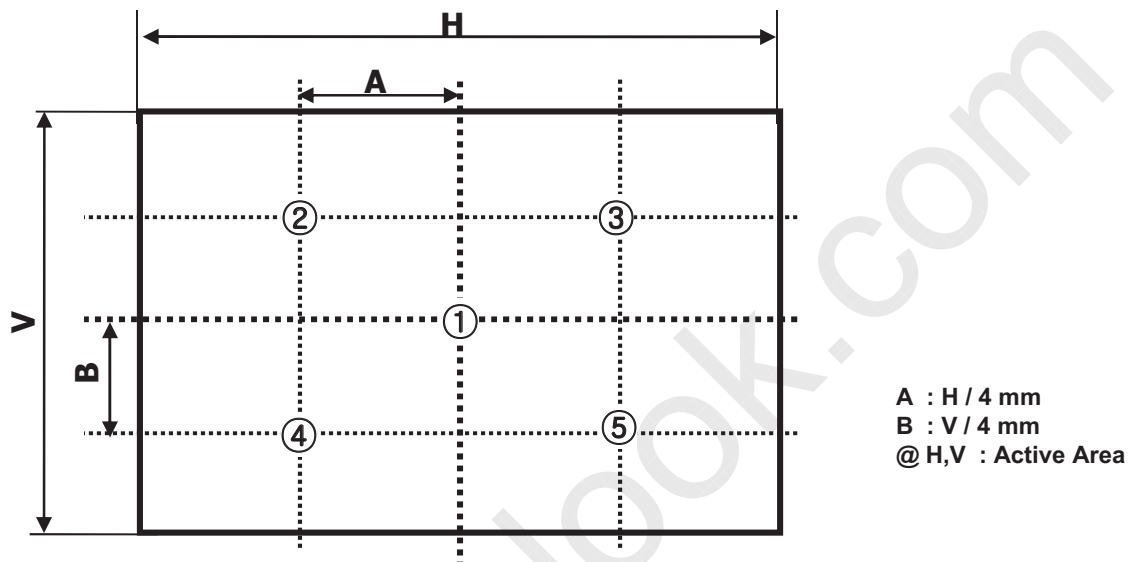

FIG. 2 5 Points for Luminance Measure
- Surface luminance are determined after the unit has been 'ON' and 1 Hour after lighting the backlight in a dark environment at  $25 \pm 2^\circ\text{C}$ . Surface luminance is the luminance value at center 1-point across the LCD surface 50cm from the surface with all pixels displaying white. For more information see the FIG. 2.
For more information, see the FIG. 2.